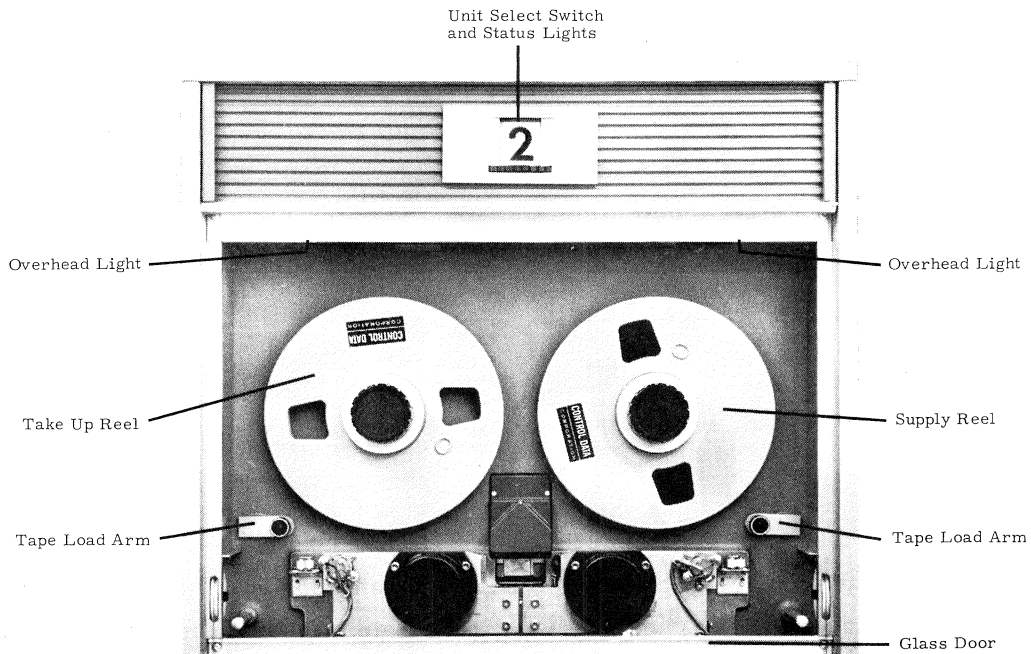

Figure 2-1. Tape Load and Unload Mechanics
- 1) Slide front door down to lowest position (figure 2-1).